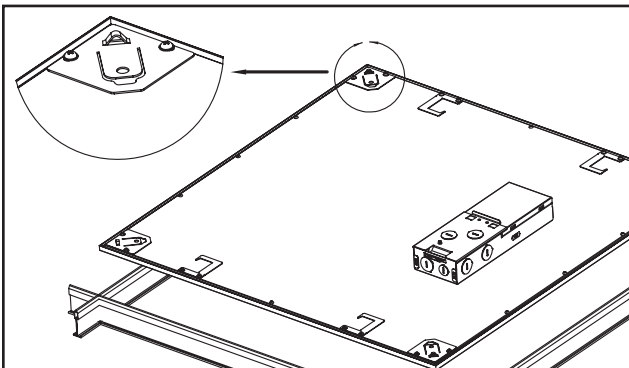

Figure 2.
**NOTE:** Fixture weights are below. Ensure grid location is rated for fixture weight before moving to next step. If unsure use cable to support fixture to appropriate support beam above fixture using the circular holes in the corner tabs (Fig 2).